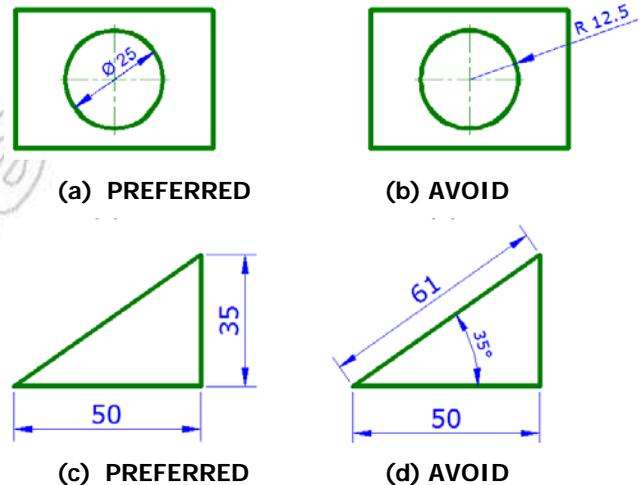

Fig. 4.7 Selection of dimension
- Dimension should not be duplicated or minimum number of dimensions should be used (Fig. 4.7 (c) and (d)).
- A hole dimension is given using diameter than radius on its circular view (Fig. 4.7 (a) and (b)).